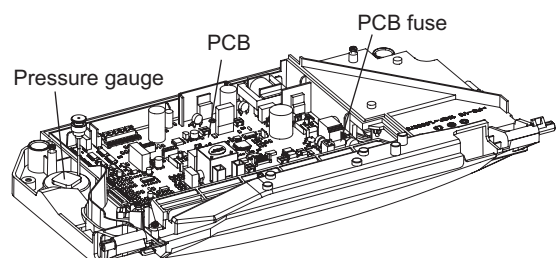

Fig. 7.2
7.7 FUSE - Fig. 7.2
7.8 PCB - Fig. 7.2
2. Remove the three retaining screws in the PCB cover and remove cover. See Fig. 7.2.
7.15 PRESSURE GAUGE - Fig. 7.2